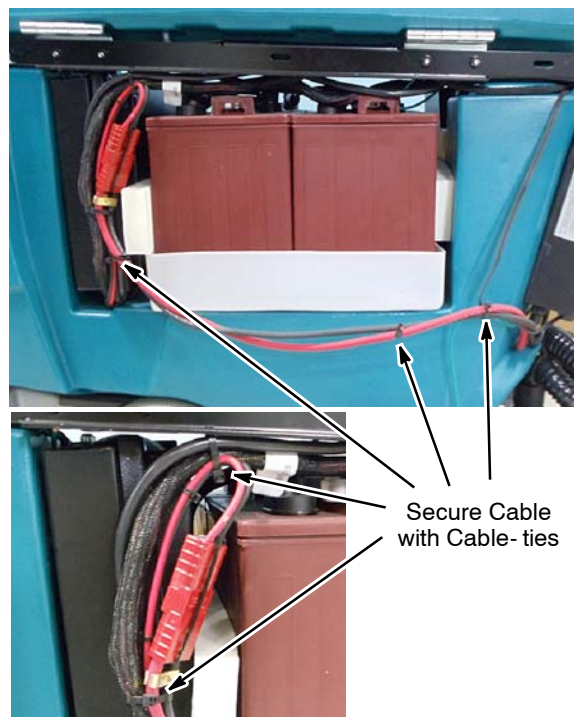

Fig. 6
10. Using the supplied cable-ties, route the charger cables as shown and secure the cable connectors next to the control panel as shown below (Figure 6).